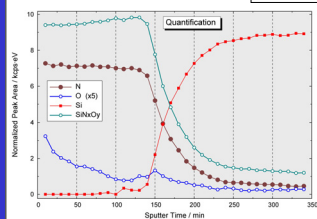

Fig. 22. Parameter Plot: Quantification of Si 2p, O 1s, N 1s
2. normalised peak area $A_N = A/(\sigma\lambda T)$ (see Fig. 22)
7. Parameter Plot of the quantification results, e.g. peak area, normalized peak area (see Fig. 22) or atomic percentage.